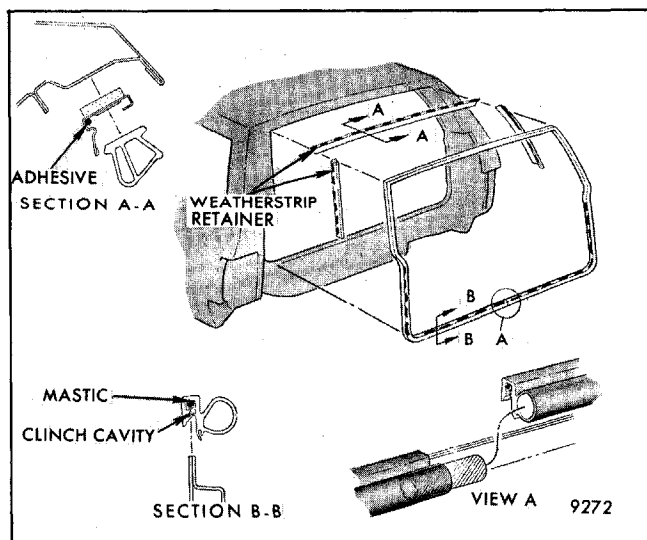

Fig. 7-123 - Tailgate Weatherstrip
TAILGATE OPENING WEATHERSTRIP (Figs. 7-123, 7-124)
4. Separate butt joint at center bottom of the opening, remove and retain plug, Figure 7-123, view A.
2. Apply a bead of black weatherstrip adhesive cement to retainers above belt, Figure 7-123, Section A-A, and reverse removal procedure.